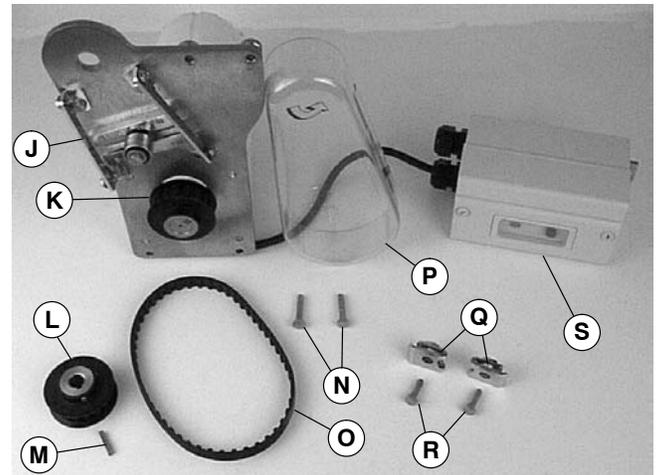

Figure 2
1. Typical components (Figure 2)
NOTE: Figure 2 shows a 7200 Series mounting package with a timing belt and three-phase Motor Starter. Single-phase Motor Starter or VFD Controller similar. 7300 Series mounting package similar.